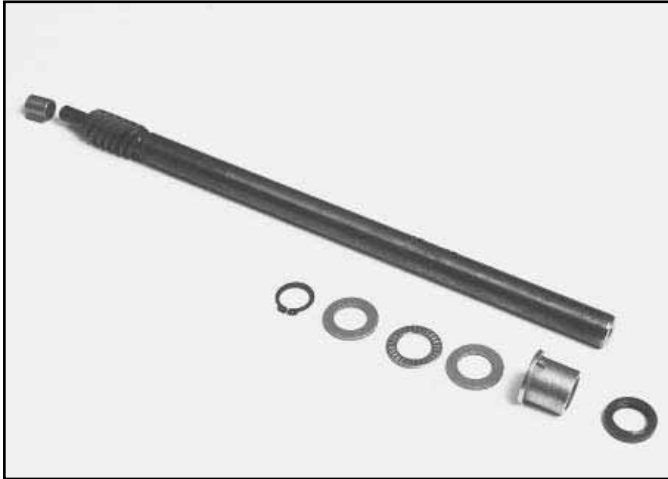

Fig 090
9. Now inspect the worm and worm gear. If either are damaged replace them both. When gears run together, they develop wear patterns unique to the two of them. Replacing only one gear will result in early failure (Fig. 090).